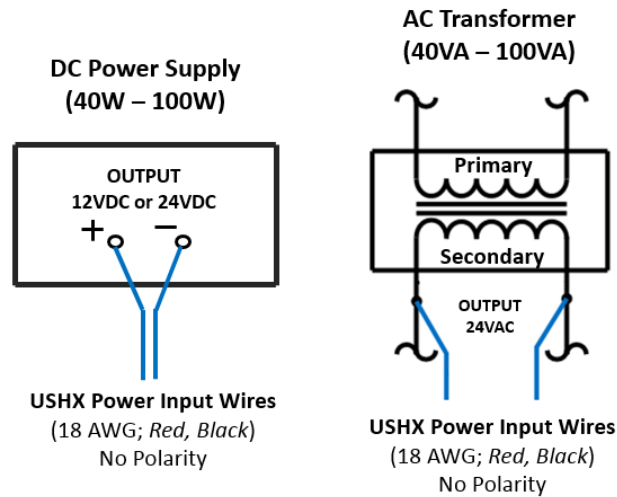

Figure 3-4 Class 2 AC and DC power sources
2. Obtain a **Class 2** 24 VAC transformer with a capacity of 40 to 100 VA and an output of 24 VAC at a frequency of 60 Hz. Alternatively, a 120 VAC to 12 VDC or 120 VAC to 24 VDC **Class 2** step-down power supply with a 40 to 100 W power rating may be used. The schematics of the power sources are shown below in **Figure 3-4**. See **Table 3-1** below to determine what minimum capacity/power rating requirements must be met with these power sources based on the number of MSEV series valves installed.